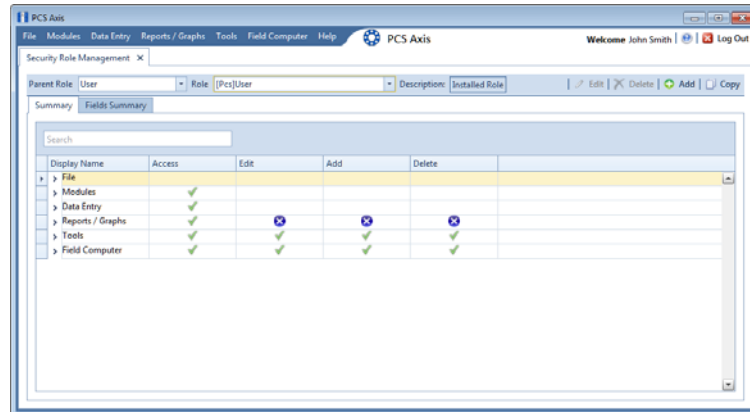

Figure 3-16. Security Role Management
- 1 Click **Tools > Security Role Management** to open the *Security Role Management* window (Figure 3-16).
- 1 If the *Security Role Management* window is not open, click **Tools > Security Role Management** (Figure 3-16, page 59).